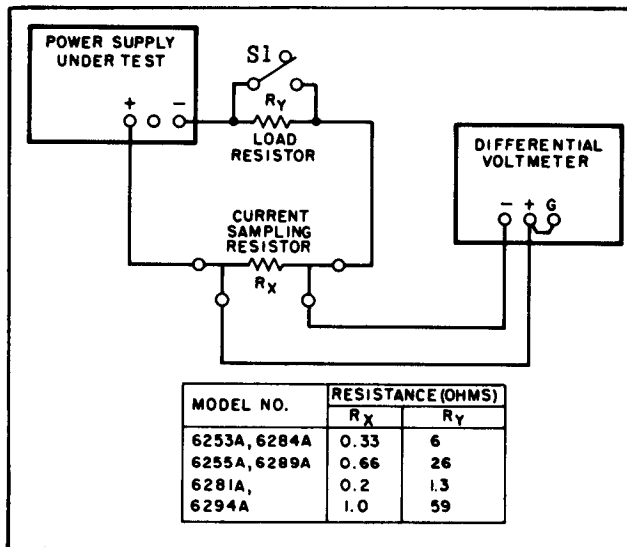

Figure 5-4. Output Current Test Setup
- a. Connect test setup as shown in Figure 5-4 leaving switch S1 open.